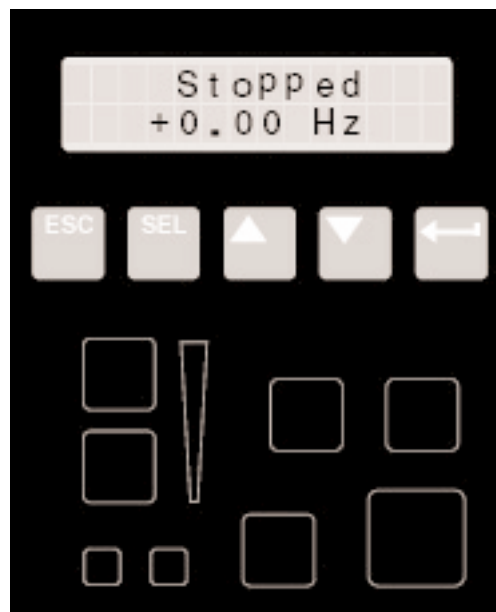

Figure 17.1 DISPLAY PANEL.
1. The status display must read "Stopped + 0.00 Hz" (see figure 17.1).